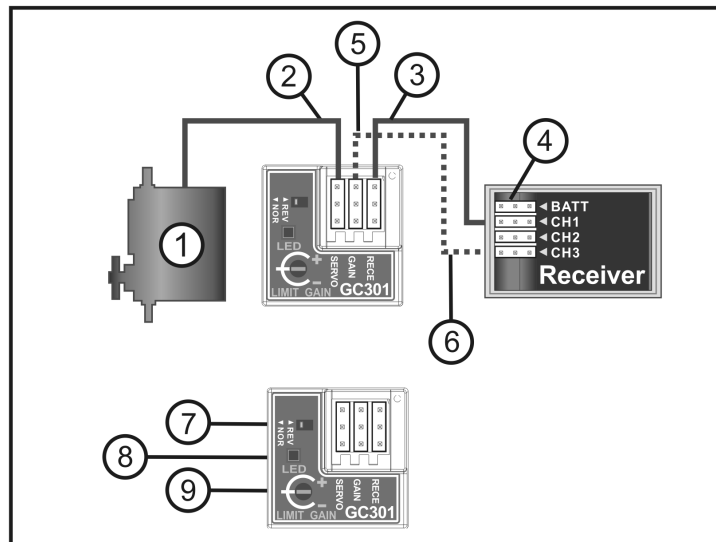

Figure 2
If you want to use connection version 1, then connect the servo cable of the steering unit (1) in the plug "SERVO" of the module (2) as shown in Figure 2.
In Figure 2 you can also see the reverse switch to change the rotational direction of the gyro function (7), the LEDs to check operation (8), and the potentiometer to adjust the gyro sensitivity (9). Please read directions concerning these elements in the following points of these operating instructions.
Now turn on the transmitter and then the receiver. The gyro component begins the calibration process. The red LED lights up and the green LED (see Figure 2, pos. 8) blinks in a slow rhythm. When the gyro is calibrated, only the red LED remains lit.
If this does not happen, then the gyro's operating direction must be changed. To do this shut the receiver off. With a suitable tool (for instance a small screwdriver) the reverse switch (see Figure 2, pos. 7) must be altered. Turn on the receiver again and check for the correct rotational direction of the steering servo.